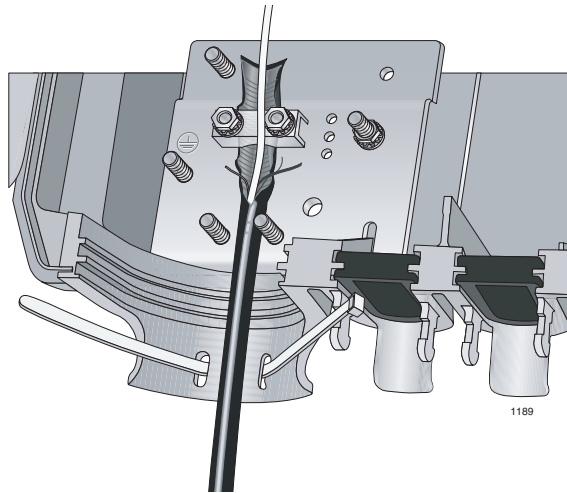

Figure 16. Positioning the Cable
10. Position the cable so that the opened shielding goes under the strength member clamp and the closed portion of the cable is about .25 in. beyond the drop cable clamp posts as shown in Figure 16